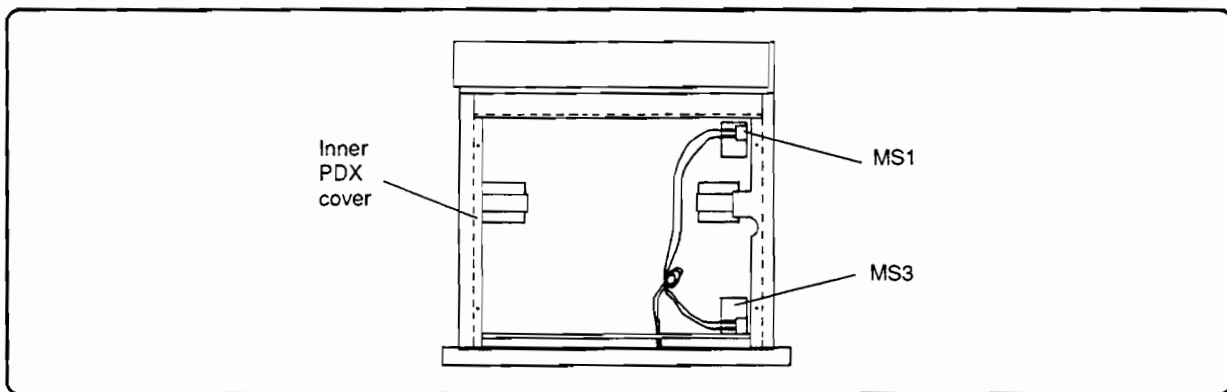

Figure 6-137. PDX-MS1 and PDX-MS3 Removal
2. On the inside face of the PDX assembly, remove the four screws holding the back (inner) cover in place (Figure 6-137).